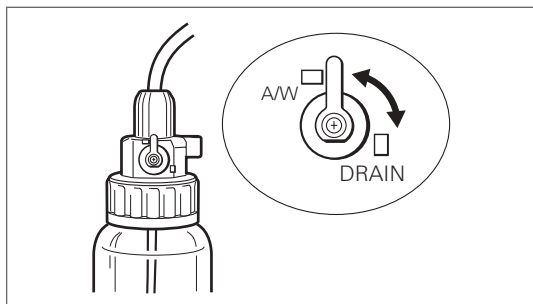

Figure 3.3
4. Align the A/W and DRAIN lever with the [A/W] (air/water supply) position (Figure 3.3).